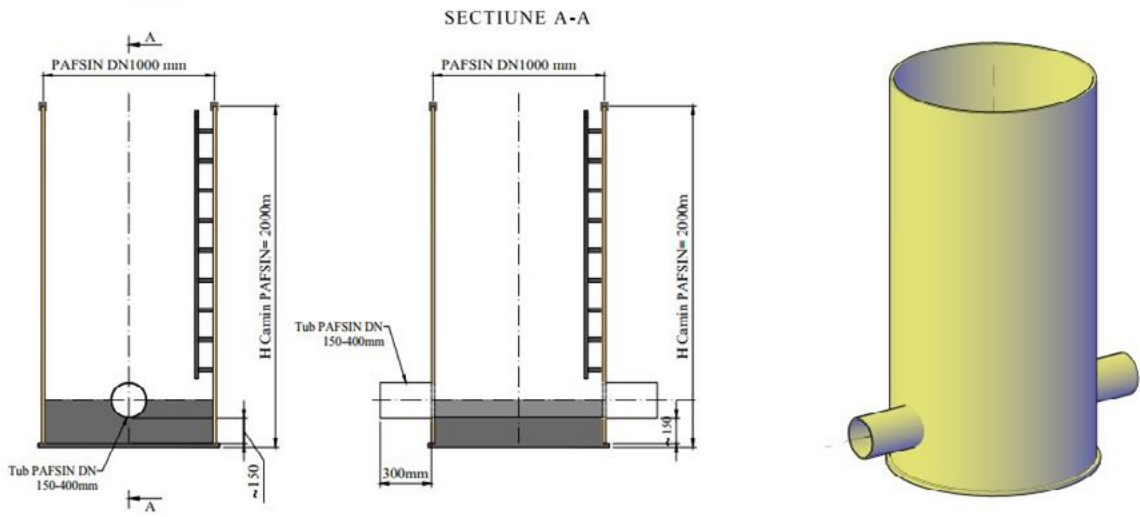

Fig. 47 GRP manhole line chimney
- » waste water pumping station manholes (Fig. 46 pg. 64 and Fig. 47, pg. 64)